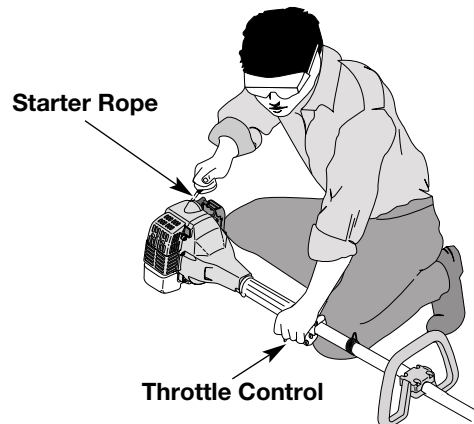

Fig. 3
1. Release your hand from the throttle control (Fig. 3). Allow the engine to cool down by idling.
**WARNING:** Avoid accidental starting. Be in the starting position when pulling the starter rope (Fig. 3). The operator and unit must be in a stable position while starting to avoid serious personal injury.
5. With the unit on the ground, squeeze the throttle control and hold. Pull starter rope briskly (Fig. 3). Continue pulling until the engine sounds as though it wants to run (normally 2 to 5 pulls).
7. Pull starter rope briskly 1 to 3 times to start the engine (Fig. 3).